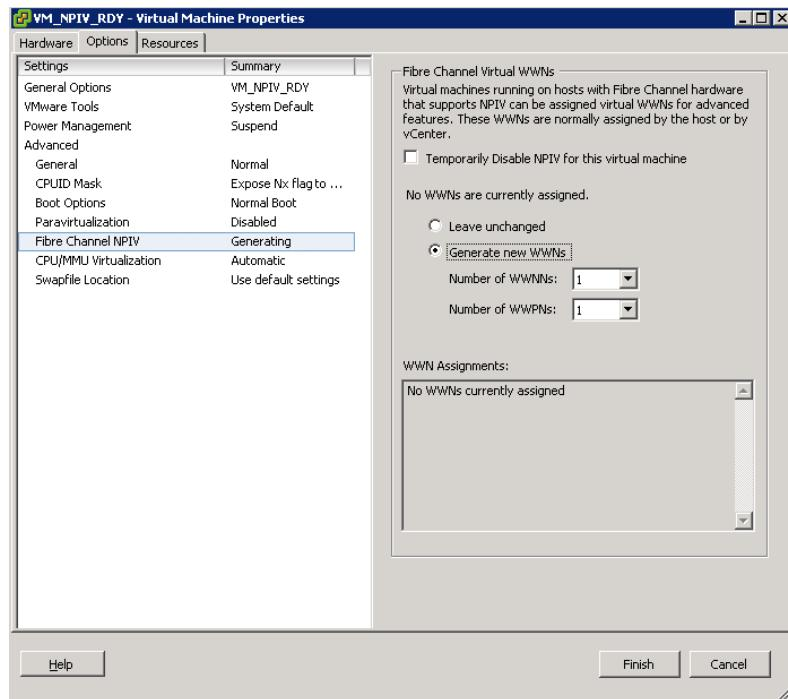

Figure 5-44. Virtual Machine Properties—Generate New WWNs
13. Select **Fibre Channel NPIV** in the left pane, click Generate new WWNs, and then click **Finish** (Figure 5-44).